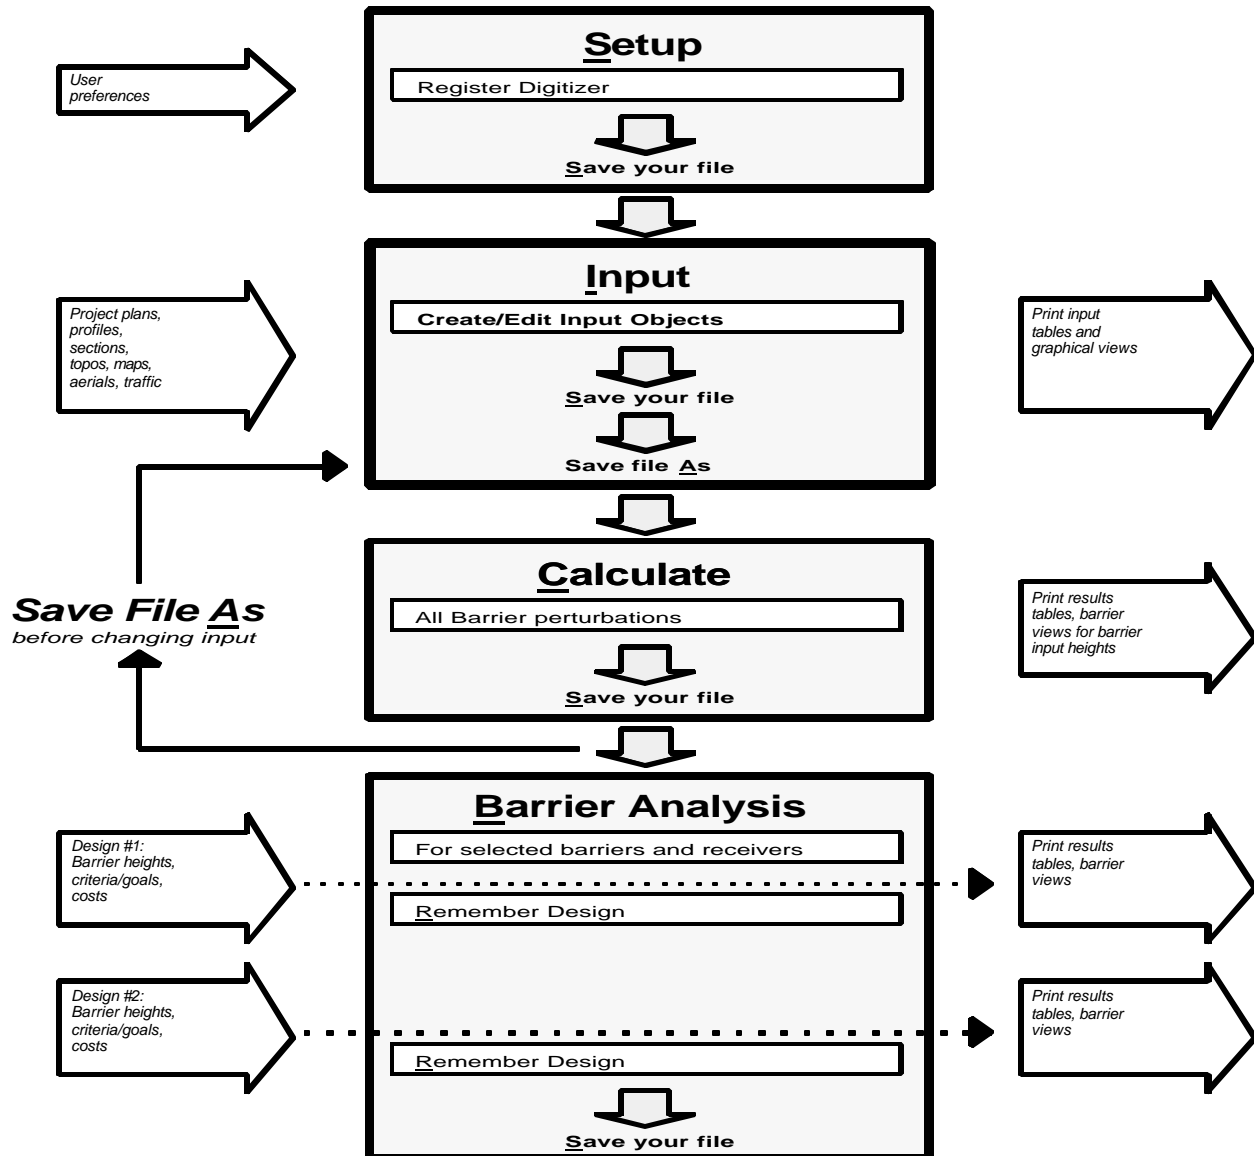

Figure 5. TNM work flow: Primary procedures.
These four procedures appear as shaded rectangles in Figure 5. This figure outlines these procedures, links them together, and shows their relationship to your TNM input (on the left) and printouts (on the right). Within each shaded rectangle are reminders to save your work often. Saving your TNM run will preserve everything about it on disk. Because this is most important, "Save your file" appears throughout the figure. In addition, you must remember your important barrier designs during barrier analysis, so that you can recall them later if you wish. The figure reminds you with "Remember Design."
Setup: The first shaded rectangle in Figure 5 is Setup. During setup, you enter your user information and preferences. The arrow to the left of the setup rectangle reminds you of this. Also as part of setup, you register plan sheets and other XY-coordinate input on the digitizer, so that TNM knows their scale and orientation. Digitizer registration tells TNM the position and orientation of input items on your digitizer. Section 7 details the setup procedure.
Input: The second shaded rectangle in Figure 5 is Input. During input, you enter all information from your project plans, profiles, sections, topography, maps, aerial photographs, and traffic. Shown to the right of the input rectangle, input tables and graphics document your input, both on the screen and on hard copy. You inform TNM about your input information by: (1) entering it directly with the mouse, digitizer, and/or keyboard, (2) importing STAMINA 2.0/OPTIMA input files, and/or (3) importing **DXF** files. Section 8 details TNM's input process, including detailed instructions for each type of input: roadways, receivers, barriers, building rows, terrain lines, ground zones, tree zones, and contour zones.
Calculate: The third shaded rectangle in Figure 5 is Calculate. After input, you tell TNM to calculate all the acoustics: sound emission from traffic, sound propagation, and sound reception at receivers. Barriers have an input height and a series of perturbations up and down from that height. TNM calculates for all barrier **perturbations**, up and down from your barrier input heights, to prepare for barrier analyses.
Save your file. Figure 5 also shows a feedback loop, from Calculate and Barrier Analysis back to Interface. The loop emphasizes the importance of saving your file. When input changes, sound levels also change. So once you have calculated sound levels, always Save your original file, then use Save As (to a new file name) before changing your input. This is because, unlike most programs, TNM will not allow you to change input and then use Save As. Once you change input, TNM will force you to Save (to the old name) before it will allow you to Save As (to the new name). TNM works in this manner because multiple files, not just a single file, are saved in TNM. Keep in mind, if you try to change most types of input data (with the exception of barrier costs, additional costs, receiver **existing level**, **impact criteria level**, **noise reduction goal**, and substantial increase) after calculating without saving your original file,
Barrier Analysis: The fourth shaded rectangle in Figure 5 is Barrier Analysis. During barrier analysis, you investigate the sound levels for perturbed barrier heights. You may want to investigate all of the barriers and receivers in the current run, or only selected barriers and receivers. The figure shows a left-to-right arrow for each barrier design. To the left, you enter specific heights for each barrier in the design, plus specific criteria/goals for each receiver and unit barrier costs. Then TNM tabulates the resulting sound levels and barrier statistics and then generates various tables. This set of perturbed heights and barrier design goals is called a TNM barrier design.